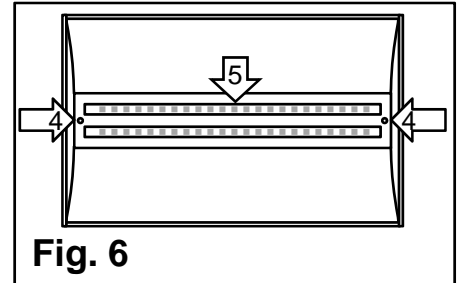

Fig. 6
2. Remove the two **screws** (#4) on the ends of the **LED cover** (#5). Remove the **LED cover** (#5) (**Fig. 6**).
4. Reattach the **LED cover** (#5) by reinstalling the two **screws** (#4) that were previously removed (**Fig. 6**).